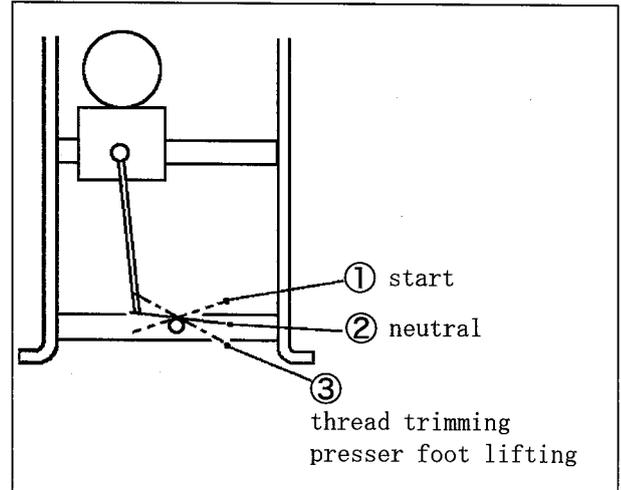

Fig. 12
- (1) Heel back the pedal to raise the presser foot.
(Fig. 12 ③)
- (2) Place the fabric under the presser foot and toe down the pedal. (Fig. 12 ①)
- (3) Release the pedal. (Fig. 12 ②)
- (4) Heel back the pedal. (Fig. 12 ③)
- (5) Release the pedal. (Fig. 12 ②)